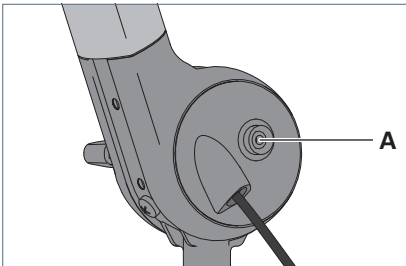

Fig. 5: Pushbutton for grounding cable.
- ▶ Connect one end of the provided grounding cable to the pushbutton **A** of the luminaire, see Fig. 5.